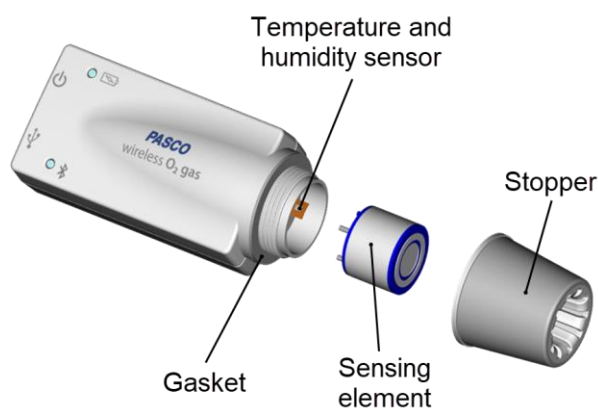

Figure 1. Installation of the sensing element.
1. Remove the stopper from the sensor by turning the stopper counterclockwise. Keep the gasket on the sensor. See Figure 1.